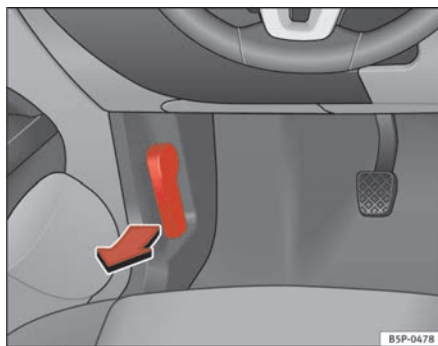

Fig. 153 Detail of footwell area on driver's side: lever for unlocking the bonnet.
- To release the bonnet, pull the lever under the dashboard ⇒ fig. 153 in the direction indicated (arrow). The bonnet will be released by a spring action ⇒ ⚠.